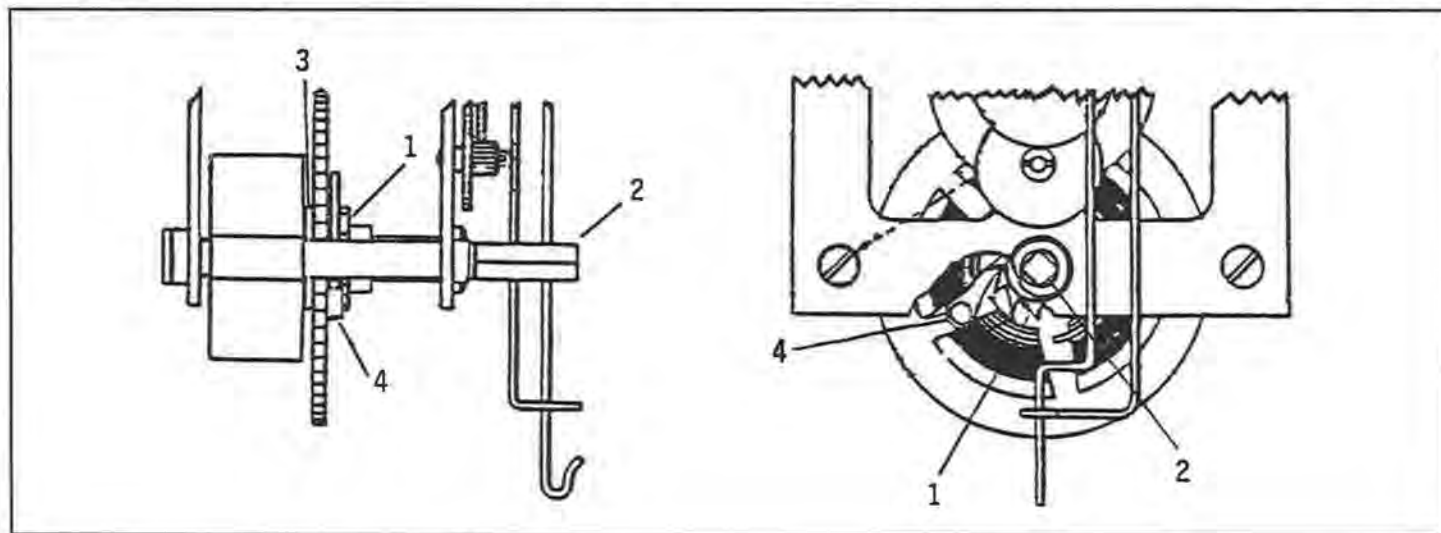

Figure 2. Ratchet assembly on an open-end mainspring (loop end).
Some clock movements do not have a mainspring barrel (refer to Figure 2). Instead, the power or motive force is provided by an open mainspring that has an eye on the end of the inner coil that fastens over a hook on the winding arbor. The outer end of the mainspring is formed into a loop, which is fitted over a pillar post. A ratchet wheel (1), which is secured to the winding arbor (2), is held tightly against the main wheel by friction from a spring washer (3), located on the opposite side of the main wheel and held against the wheel by a riveted shoulder. The pawl or click (4), that is free to rotate on a post attached to one of the spokes of the main wheel, is pressed against the ratchet by a click spring. When winding the mainspring, the main wheel remains stationary while the winding arbor is being turned with a key in the direction allowed by the design of the pawl and ratchet wheel. This arrangement allows the pawl to slide over a ratchet wheel tooth, dropping under the force of the click spring in between the teeth repeatedly, until the mainspring has been fully wound. When winding is completed, the pawl (attached to a spoke of the main wheel) and the ratchet wheel (secured to the arbor) mesh to turn the main wheel so that energy can be transmitted through the train. Energy from the wound mainspring will cause the arbor to turn in the direction opposite to the winding action.